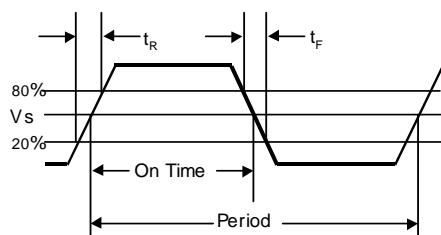

Figure 1. Output Waveform
2. Figure 1 defines these parameters. Figure 2 illustrates the equivalent five gate TTL load and operating conditions under which these parameters are tested and specified.